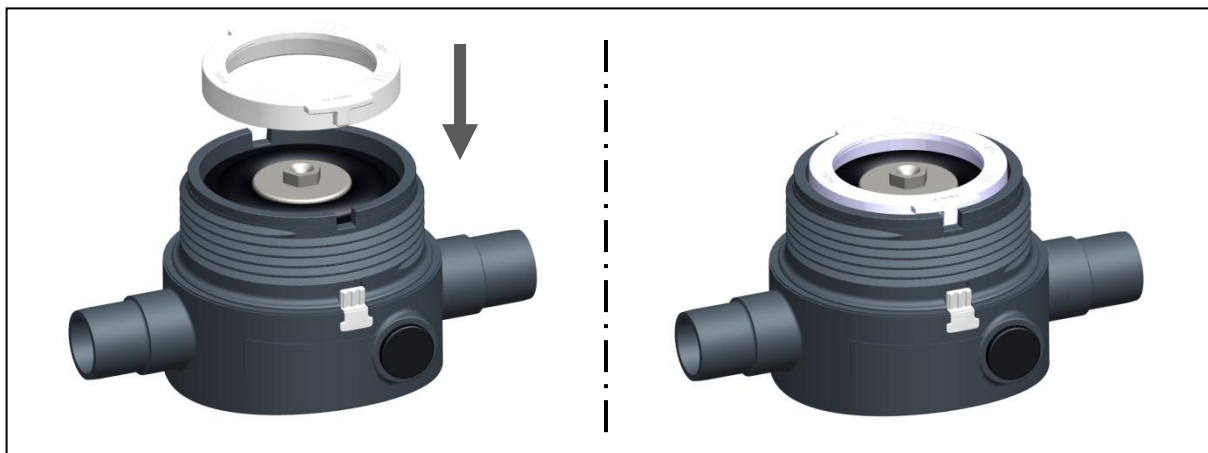

Fig. 13
- Place the retaining ring. During this, ensure that both projections of the retaining ring lie in the notches of the body, see Fig. 13